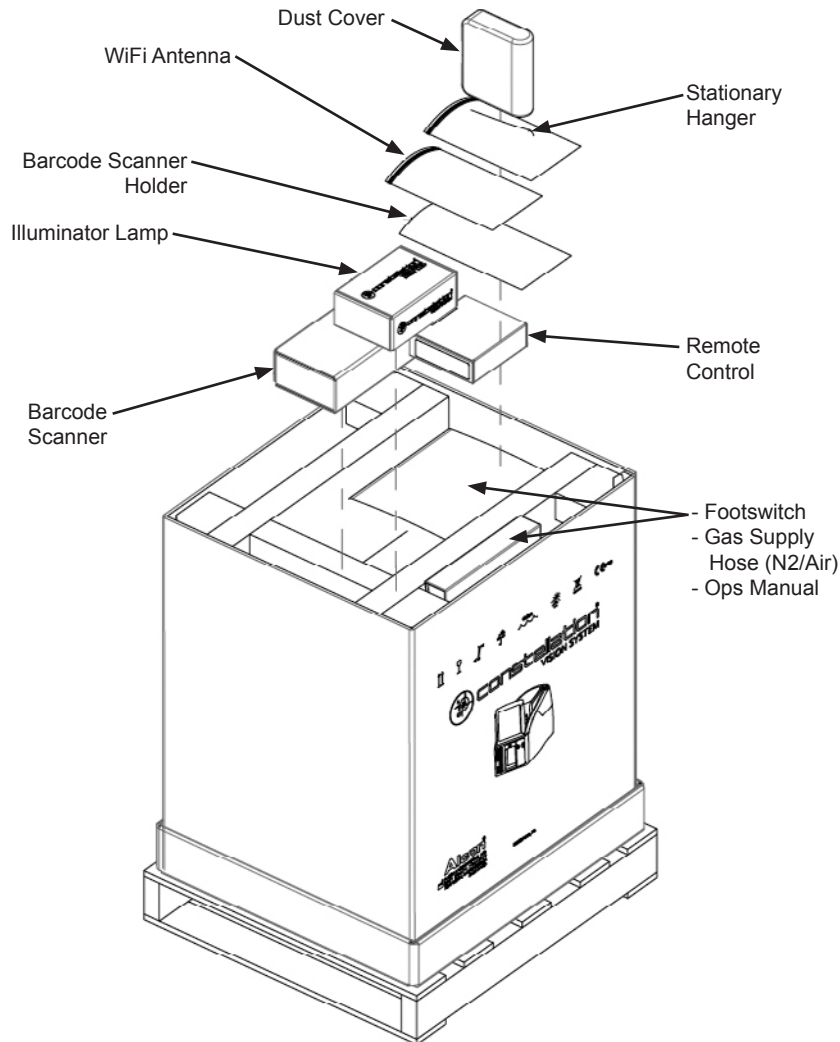

Figure 7-8. Table Top (Boxed) with Accessories
22. Remove accessory bags and boxes from crate (see Figure 7-8).